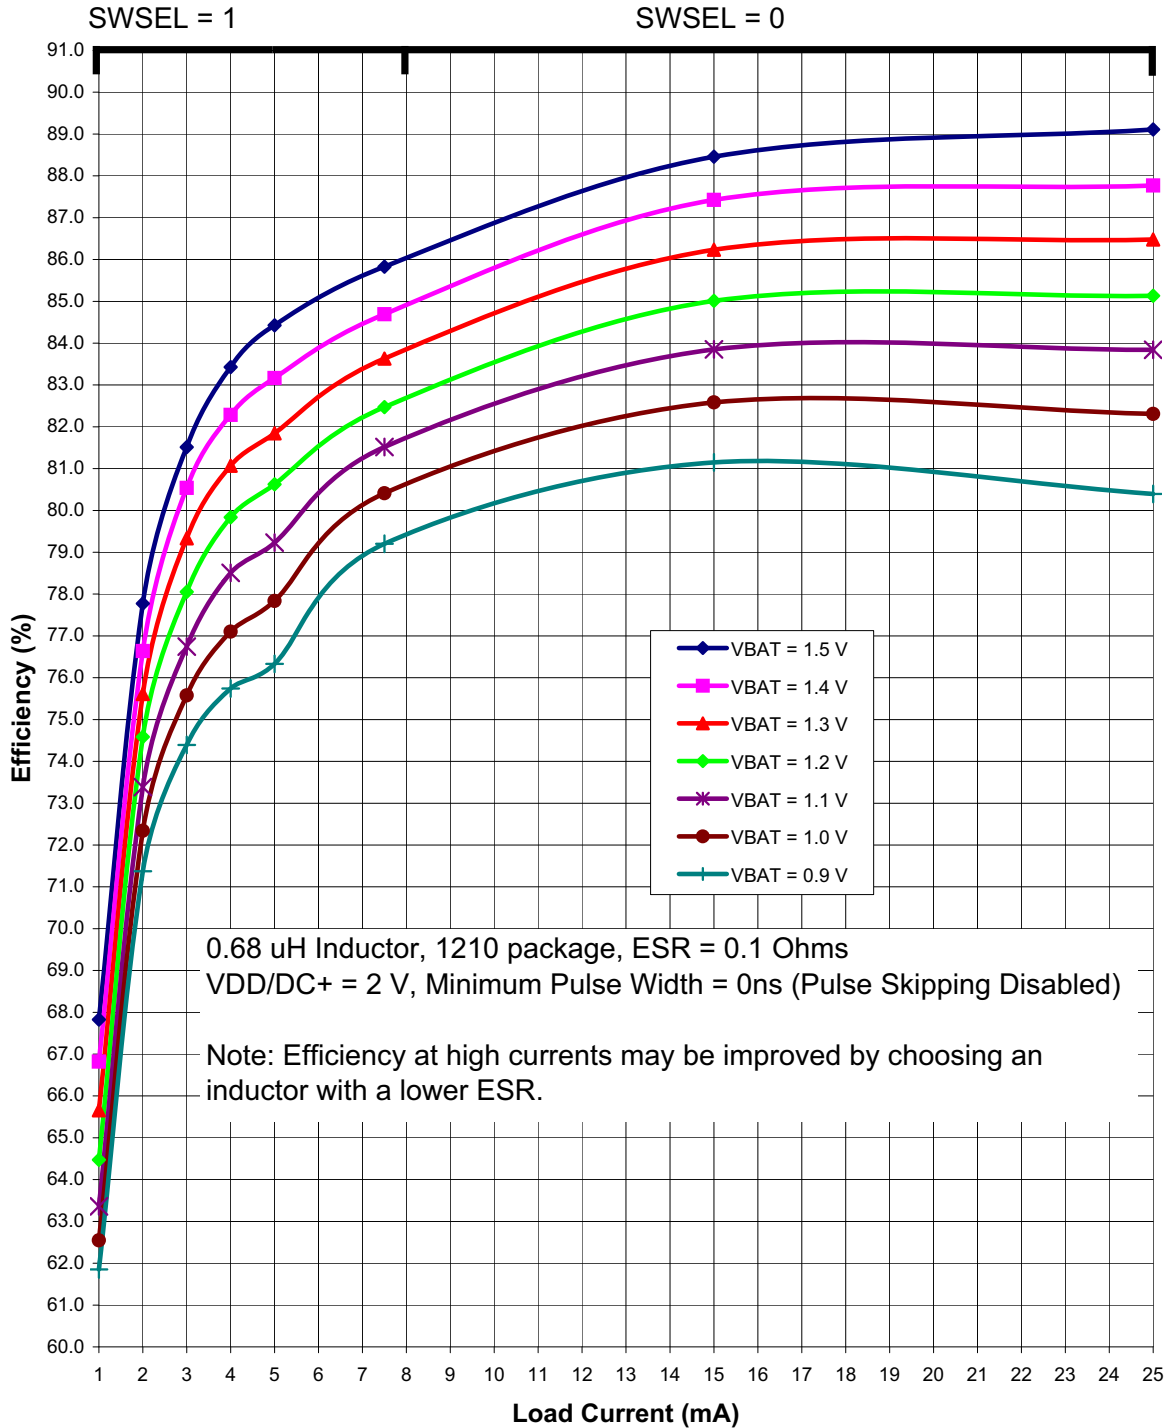
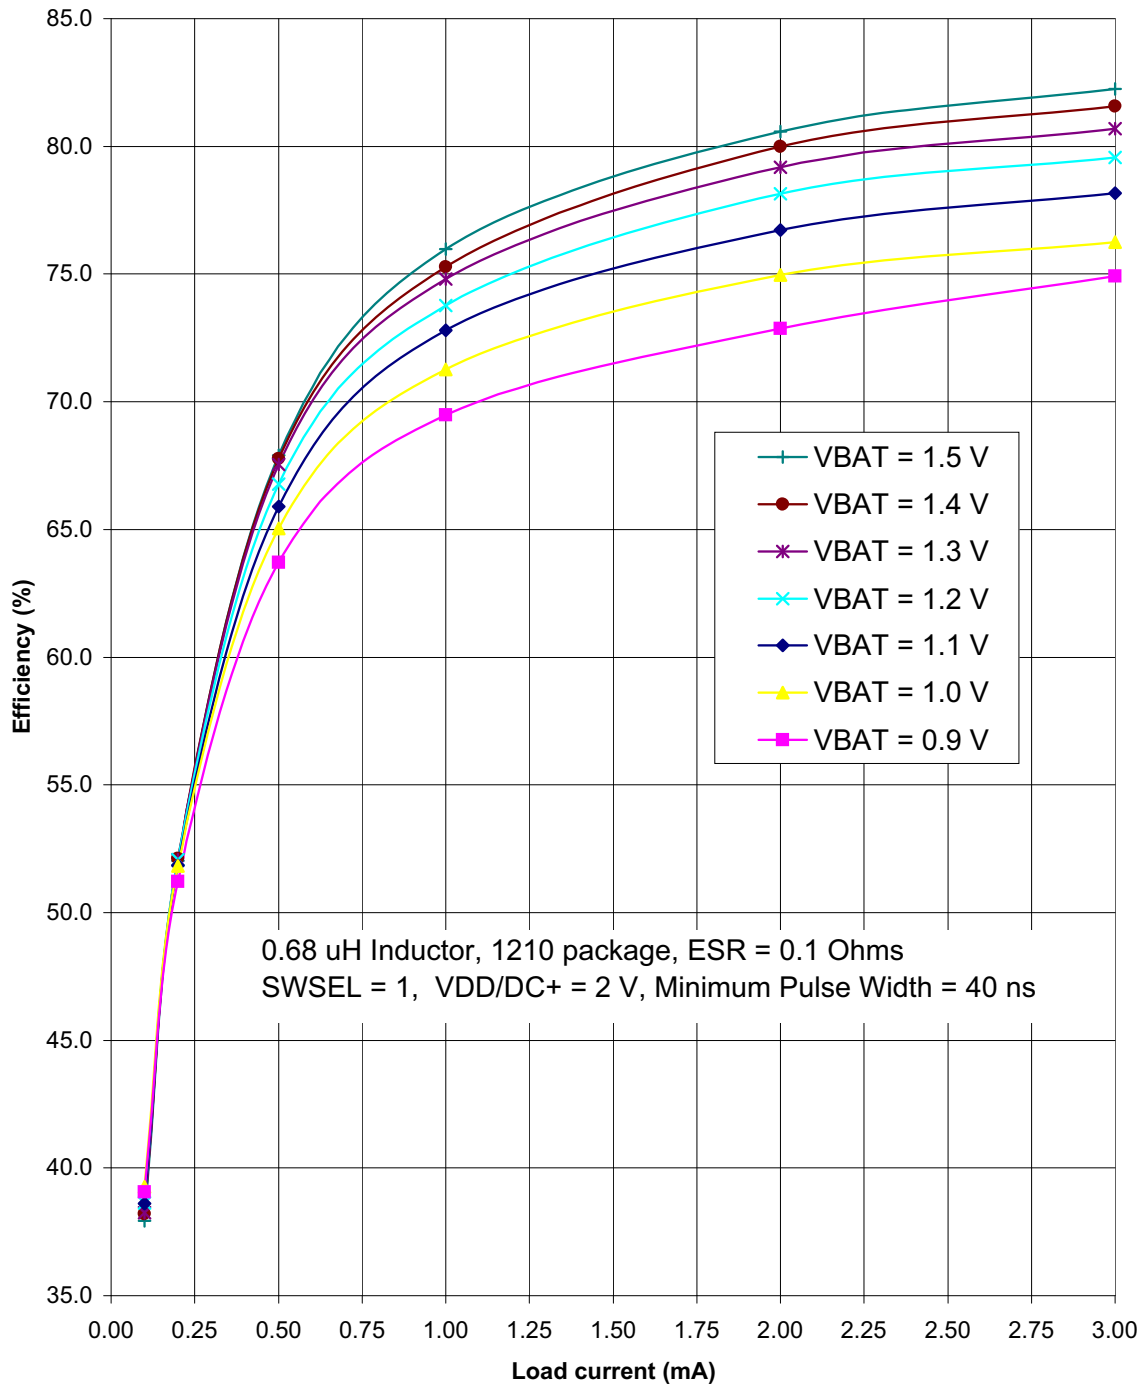

Figure 4.3. Typical DC-DC Converter Efficiency (High Current, VDD/DC+ = 2 V)
Figure 4.5. Typical DC-DC Converter Efficiency (Low Current, VDD/DC+ = 2 V)
<ol style="list-style-type: none"> <li>1. Based on device characterization data; Not production tested.</li> <li>2. SYSCLK must be at least 32 kHz to enable debugging.</li> <li>3. Digital Supply Current depends upon the particular code being executed. The values in this table are obtained with the CPU executing an "sjmp \$" loop, which is the compiled form of a while(1) loop in C. One iteration requires 3 CPU clock cycles, and the Flash memory is read on each cycle. The supply current will vary slightly based on the physical location of the sjmp instruction and the number of Flash address lines that toggle as a result. In the worst case, current can increase by up to 30% if the sjmp loop straddles a 64-byte Flash address boundary (e.g., 0x007F to 0x0080). Real-world code with larger loops and longer linear sequences will have few transitions across the 64-byte address boundaries.</li> <li>4. Includes oscillator and regulator supply current.</li> <li>5. IDD can be estimated for frequencies <math>\leq 14</math> MHz by simply multiplying the frequency of interest by the frequency sensitivity number for that range, then adding an offset of 90 <math>\mu</math>A. When using these numbers to estimate <math>I_{DD}</math> for <math>&gt;14</math> MHz, the estimate should be the current at 25 MHz minus the difference in current indicated by the frequency sensitivity number. For example: <math>V_{DD} = 3.0</math> V; <math>F = 20</math> MHz, <math>I_{DD} = 4</math> mA – <math>(25 \text{ MHz} - 20 \text{ MHz}) \times 0.102 \text{ mA/MHz} = 3.5</math> mA assuming the same oscillator setting.</li> <li>6. The supply current specifications in Table 4.2 are for two cell mode. The VBAT current in one-cell mode can be estimated using the following equation:  <math display="block">\text{VBAT Current (one-cell mode)} = \frac{\text{Supply Voltage} \times \text{Supply Current (two-cell mode)}}{\text{DC-DC Converter Efficiency} \times \text{VBAT Voltage}}</math> <p>The VBAT Voltage is the voltage at the VBAT pin, typically 0.9 to 1.8 V.                      The Supply Current (two-cell mode) is the data sheet specification for supply current.                      The Supply Voltage is the voltage at the VDD/DC+ pin, typically 1.8 to 3.3 V (default = 1.9 V).                      The DC-DC Converter Efficiency can be estimated using Figure 4.3–Figure 4.5.</p> </li> <li>7. Idle IDD can be estimated by taking the current at 25 MHz minus the difference in current indicated by the frequency sensitivity number. For example: <math>V_{DD} = 3.0</math> V; <math>F = 5</math> MHz, Idle <math>I_{DD} = 2.1</math> mA – <math>(25 \text{ MHz} - 5 \text{ MHz}) \times 0.079 \text{ mA/MHz} = 0.52</math> mA.</li> <li>8. Internal LFO only available on 'F912 and 'F902 devices.</li> <li>9. Ability to disable VBAT supply monitor only available on 'F912 and 'F902 devices.</li> </ol>